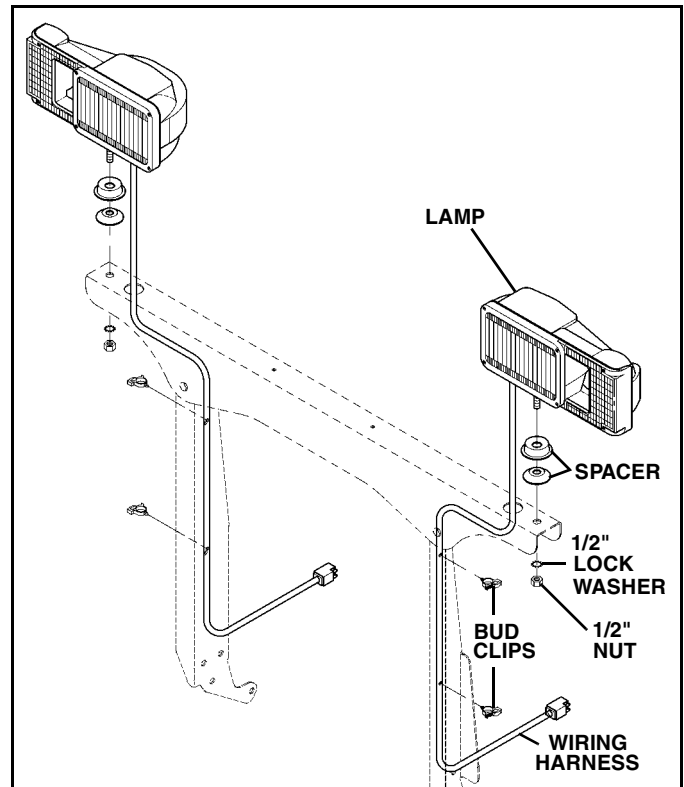

Figure 1-16
Mount lamps on light bar using supplied 1/2" lock washers and nuts. (See Figure 1-16).
11. Route the harnesses through the light bar, through the access hole and down the inside of the light bar supports. (See Figure 1-16).